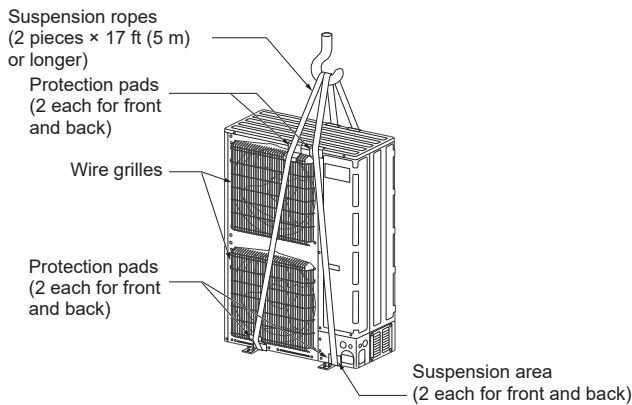

Fig. 2-2
2.4.1. Hanging the unit (Fig. 2-2)